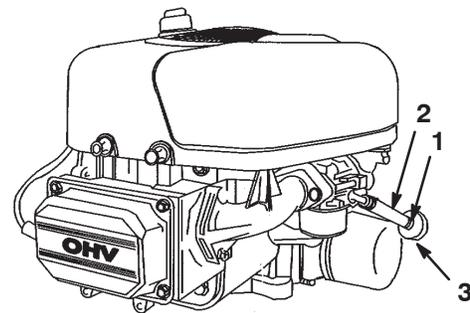

Figure 28
4. Open the hood and locate the fuel filter (Fig. 28).
5. Squeeze the ends of the hose clamp together and slide it up the fuel line toward the fuel tank (Fig. 28).
6. Pull the fuel line off of the fuel filter (Fig. 28) and allow gasoline to drain into a fuel container or a drain pan.
Replace the fuel filter after every 100 operating hours or yearly, whichever occurs first. The best time to replace the fuel filter (Fig. 28) is when the fuel tank is empty. Never install a dirty fuel filter after it has been removed from the fuel line.
4. Squeeze the ends of the hose clamps together and slide them away from the fuel filter (Fig. 28).